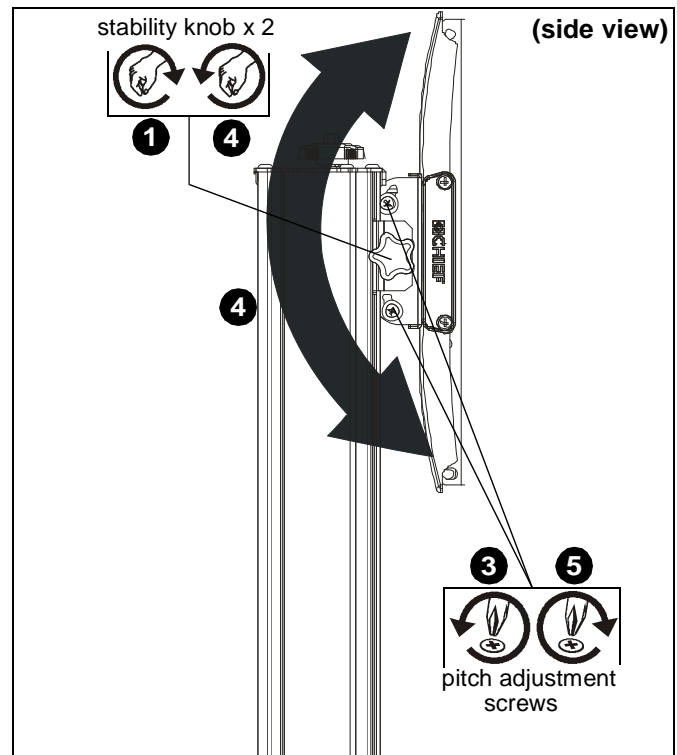

Figure 21
5. Loosen two stability knobs on either side of head assembly. (See Figure 21)
6. Loosen pitch adjustment screws to allow pitch to be adjusted. (See Figure 21)
7. Adjust pitch as desired. (See Figure 21)
8. Tighten pitch adjustment screws to lock pitch position. (See Figure 21)
9. Tighten two stability knobs on either side of head assembly. (See Figure 21)